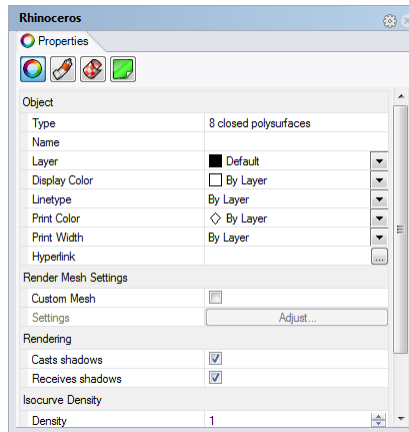

Figure 83: Property dialog box indicating that 8 closed Polysurfaces have been selected
2. Select **all 8 solids** (by **clicking** on them or using **Edit|Select Objects|Polysurfaces**) , and select **Edit|Object Properties (F3)**. The **Property** dialog box indicates that the selected **polysurfaces** constitute **8 closed polysurfaces** (Figure 83). Again, **if any of the polysurfaces is not closed** (i.e. not a Solid), join them into solids.